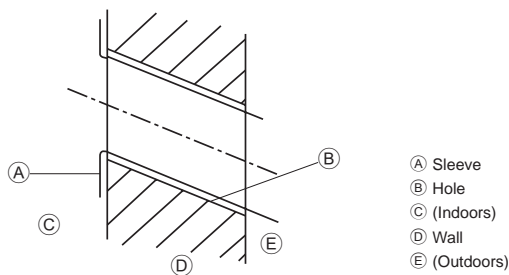

Fig. 3-3
- (B) Indoor unit
- (C) Bottom left rear pipe hole (ø65)
- (D) Bottom right rear pipe hole (ø65)
- (E) Knockout hole for left rear hole (70 × 310)
- (F) Bolt hole (4-ø9 hole)
- (G) Center measurement hole (ø2.5 hole)
- (H) Tapping hole (77-ø5.1 hole)
- (I) Hole centre
- (J) Align the scale with the line.
- (K) Insert scale.
3.2.2. Drilling the piping hole (Fig. 3-3)